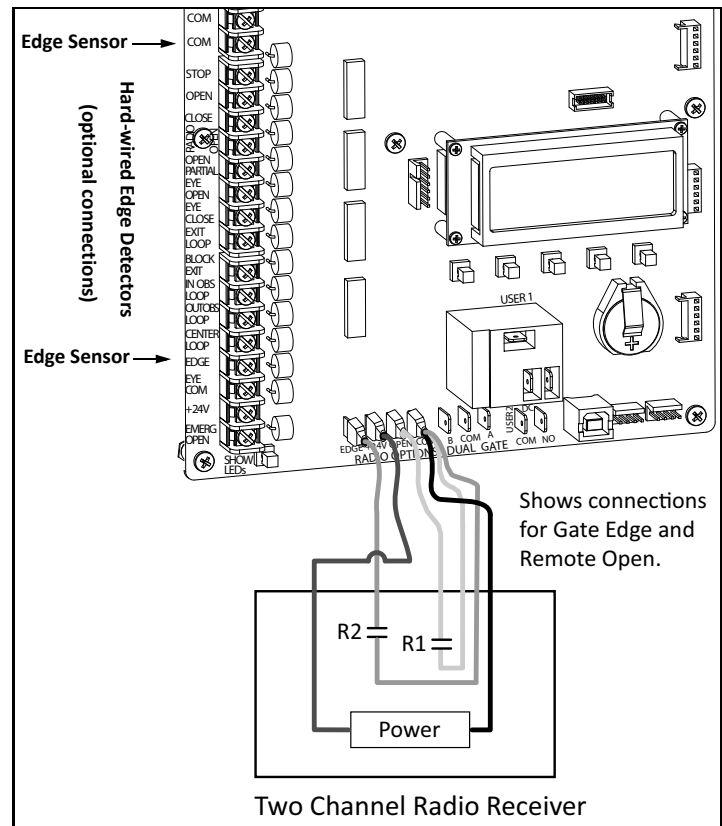

Figure 6-12.
- The preferred receiver connections are shown in Figure 6-12. An optional method is to connect one edge sensor lead to a COM terminal at the top, left side of the Smart DC Controller, and the other lead to the EDGE terminal, at the bottom, left side of the controller.
- Connect the edges to the terminals in the edge transmitter and set the “DIP” switches of the transmitter to match the setting in the receiver to be used. Refer to Figure 6-12.